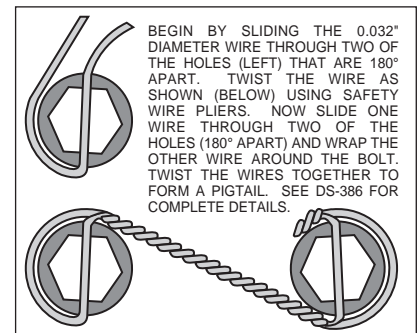
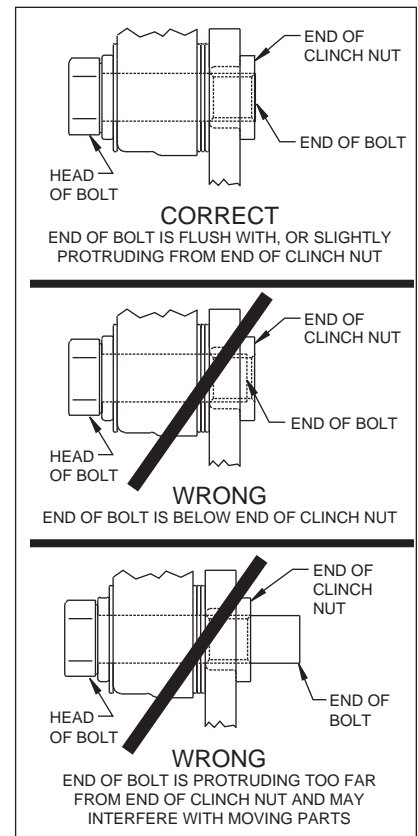

Figure 4. Safety Wire Diagram
Figure 5. Clinch Nut Engagement Diagram
Assembly Instructions (numbers in parenthesis refer to the part list/diagram on the preceding page): **CAUTION:** All mounting bolts must fully engage insert nuts. Be sure to check that all bolts are either flush or protruding through flanged side of insert nut after shimming, Figure 5.
- With the slot pointing upward and the mounting ears pointing towards the rear of the vehicle, install the caliper mounting bracket (1) to the housing flange using the stock Original Equipment Manufacturer (OEM) bolts and nuts. Stock OEM hex nuts that retain the bracket (1) should be on the wheel side of the bracket. Apply red *Loctite*® 271 to the stock OEM bolt threads and torque to OEM specifications. **NOTE:** Some brackets act as the bearing retainers, while others help locate the bearing in the axle housing flange. If the stock bearing plates are still on the axle, the caliper mounting brackets (1) should be located between the axle housing flange and the bearing retainer plate. Make sure the heads of the caliper mounting bracket insert nuts are FACING OUTWARD TOWARDS THE WHEEL.
- Bolt the hat (2) to the rotor (3) using washers (4) and bolts (5). Torque bolts (5) to 180 in-lb. Safety wire bolts (5) using standard 0.032 inch diameter stainless steel safety wire as shown in Figure 4. Please refer to Wilwood's data sheet DS-386 (available at www.wilwood.com/Pdf/DataSheets/ds386.pdf) for complete safety wire installation instructions.
- Align the correct hole pattern in the hat (2) with the stud pattern on the axle flange. **NOTE:** Some OEM and after market axles come with stud sizes larger than 0.50" diameter. Verify stud size and have a qualified machine shop drill the hats to the correct size. Slide the hat/rotor assembly (2 and 3) over the wheel studs and against the axle flange face.
- NOTE:** Please reference the caution statement at the beginning of the assembly instructions. Mount the caliper (6) over the rotor (3) and onto the caliper mounting bracket (1) using washers (7) and mounting bolts (8). View the rotor through the top opening of the caliper. The rotor should be aligned in the center of the caliper. If not, adjust the caliper by using 0.032 inch shim washers (9), placing them between the caliper mounting bracket (1) and the caliper (6). Add as many shim washers (9) as necessary to achieve the correct alignment. **NOTE:** The end of the bolt must be flush with or slightly protruding from the head of the clinch nut. See Figure 5. Place spare shims (9) between washer and caliper mounting ear to achieve the proper mounting fastener configuration. Always use the same amount of shims on both the top and bottom caliper mounting bolts (8). Apply red *Loctite*® 271 to the mounting bolt threads (8), torque bolts to 40 ft-lb. Safety wire the caliper mounting bolts (8).
- Position the Wilwood disc brake pads (10) into the caliper (6) and fasten with cotter pin (11). Steel backing plate side of brake pad should face the caliper pistons.